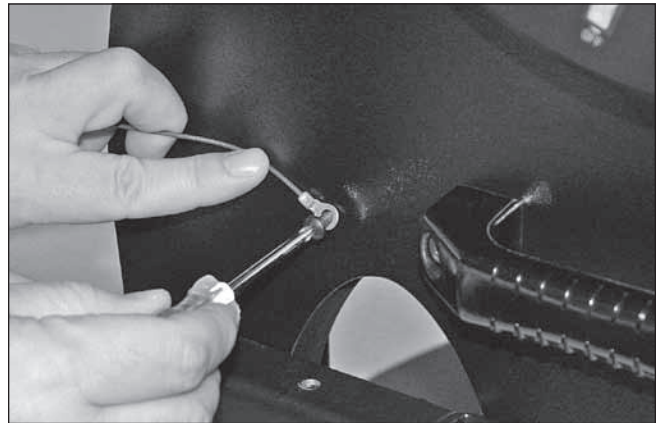

Figure 3. Anchor a detent pin tether to the pilot hole in each side panel with the small Phillips-head wood screw.
2.2 Find the small hole above each handle mounting bracket. Fasten the metal terminal of the handle detent pin's tether cable to the side panel with a wood screw. Insert the screw through the terminal and screw it into the hole with a Phillips screwdriver (**Figure 3**). The cables keep the detent pins tethered to the base, so they can never get lost.